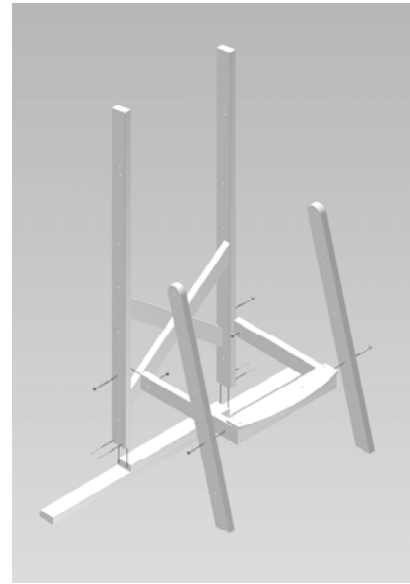

Fig. 3
Step 1) Holding it securely, drill Four (4) 7/64" pilot holes through the Center Leg Assembly ("B") into the Lower Frame Assembly ("A"). Attach the two together by using Four (4) 2 1/2" Square Drive Recessed Head Screws. **See Figure 3.**
Loose assemble the Step Assembly ("E") to the two Front Legs and to the Center Leg Assembly ("B") by using Four (4) 5/16-18 x 3 1/2" S.S. Hex Head Bolts, Four (4) 5/16" S.S. Flat Washers, and Four (4) 5/16" S.S. Nylock Hex Nuts . (Note: These are bolted through the second hole up from the bottom). **See Figure 3.**